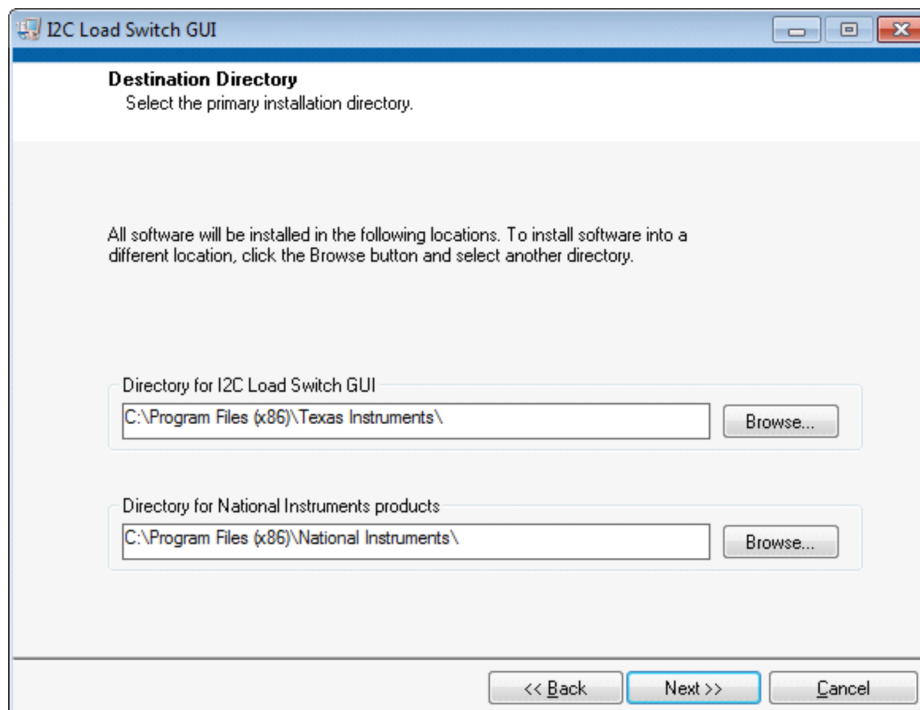

Figure 2. I²C Load Switch Application Installer
(B) You should see a pop up window asking you to install the software click “Yes” and then you should see the window in Figure 2 pop up and click “Next” and agree to the terms and conditions in the installer.